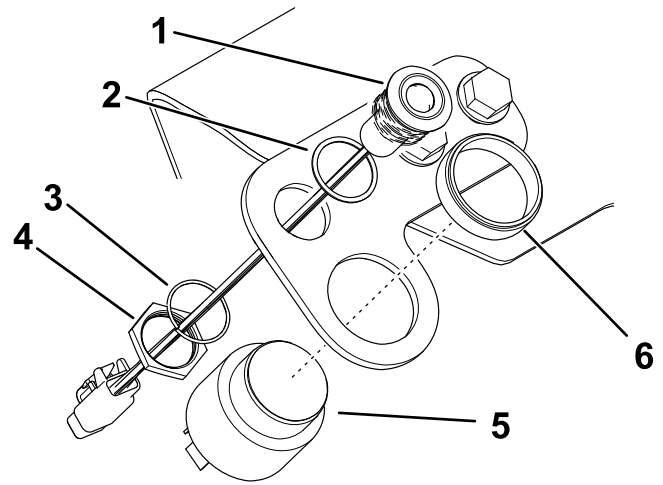

Figure 11
3. Remove the plastic nut from the alarm and use it to install the alarm to the bracket (Figure 11).
4. Remove the nut, lock washer, and gasket from the LED light and use them to install the light to the bracket (Figure 11).